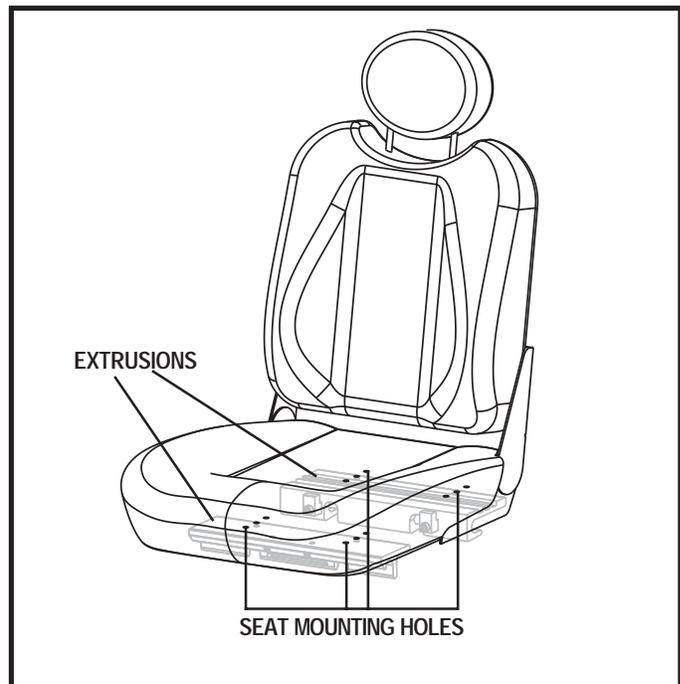

Figure 15. Seat Position Adjustment
6. Reposition the extrusions on a different set of mounting holes. You must move both extrusions the same number of holes either forward or rearward. See figure 15.